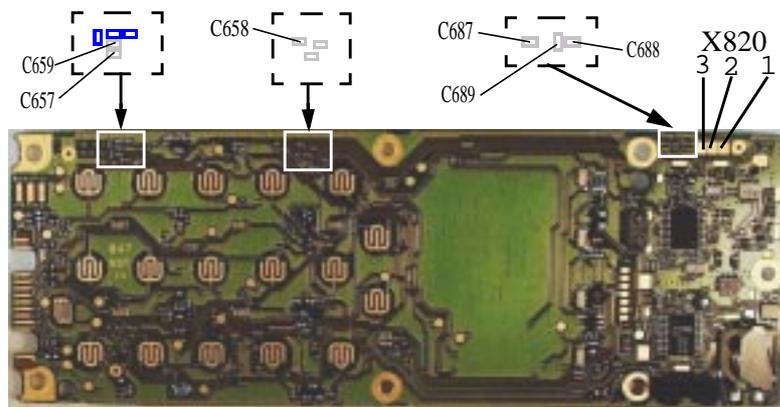
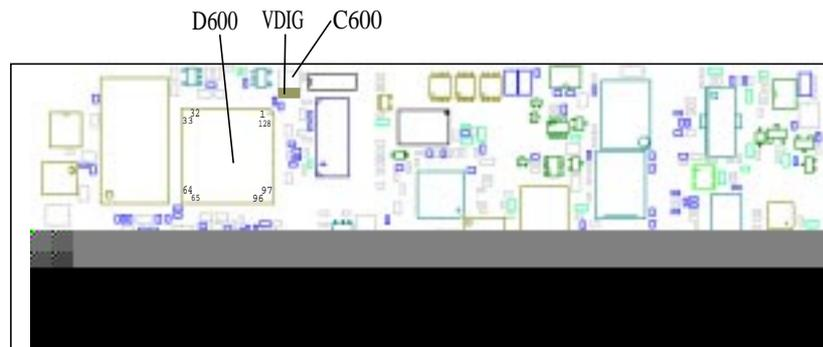

Fig 8.1
Fig 8.2
Open the phone and check for liquid damages, especially around X820 (Fig 8.1). Change the flex film for the volume buttons, put the phone together and try again.
1. If the resistances are too low replace as follow; X820:1 replace C659 and C689; X820:2 replace C658 and C688; X820:3 replace C657 and C687. (all capacitors are class A, Fig 8.1). If the fault remains, replace D600 (class B, Fig 8.2).
2. Check the solderings on D600:122-123 (Fig 8.2) and D600:128. Measure the resistance on the foil between X820:1-D600:122, X820:2-D600:128 and X820:3-D600:123. If there is a damage in the foil the board has to be discarded. If no fault is found replace D600 (class B).
Open the phone and check for liquid damages, especially around the buttons that don’t work. Wash the keyboard pads properly and put the phone together again using a new keyboard. Check the phone again according to section 8.2. If that didn’t work, open the phone and check the solderings on D600:1 (Fig 8.2) and D600:120-128. If they are fine, give the board power and start it up. Measure VDIG (3.2 V) on the side of C600 that is marked (Fig 8.2). If VDIG is incorrect, proceed to chapter 3 (“Doesn’t start”-fault).